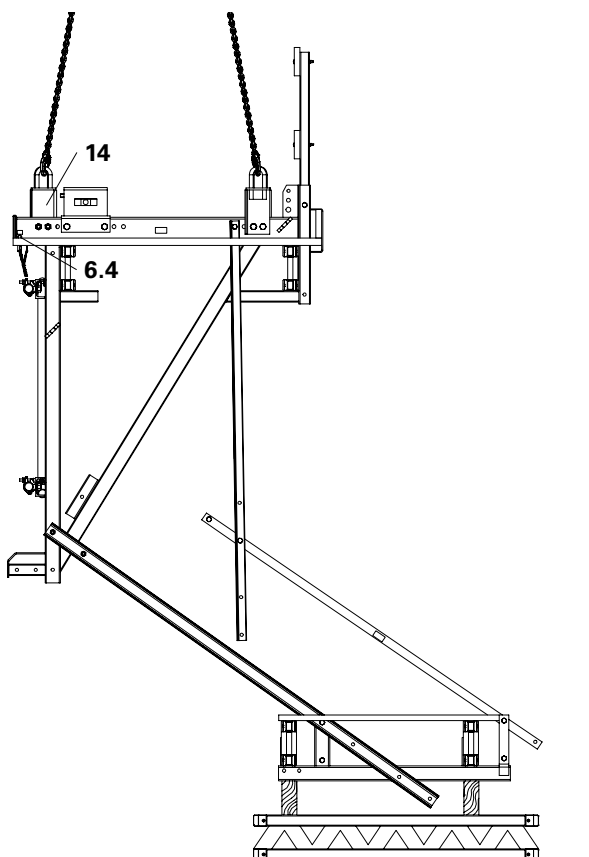

Fig. B1.36
2. Attach 4-sling lifting gear to Platform Mountings CB (14).
4. Lift working platform out of the anchoring and disassemble finishing platform. (Fig. B1.36)